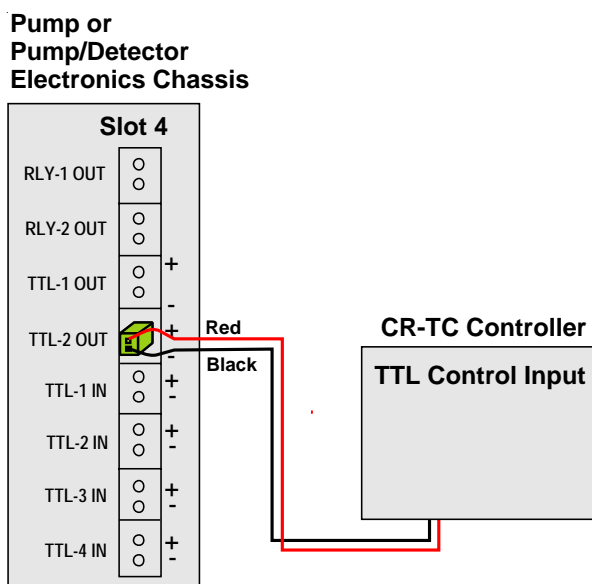

Figure 14
- B. The TTL Connector is now on the outside of the tubing chase. Connect the TTL connector to the **TTL-2** output on the Dionex GP/IP, GS/IS, or IC pump. The red wire is the positive (+) wire and the black wire is the neutral or ground (-) wire. The **TTL-2** output will be set to 0 FLOW usage in section 2.1.5. See Figure 14.